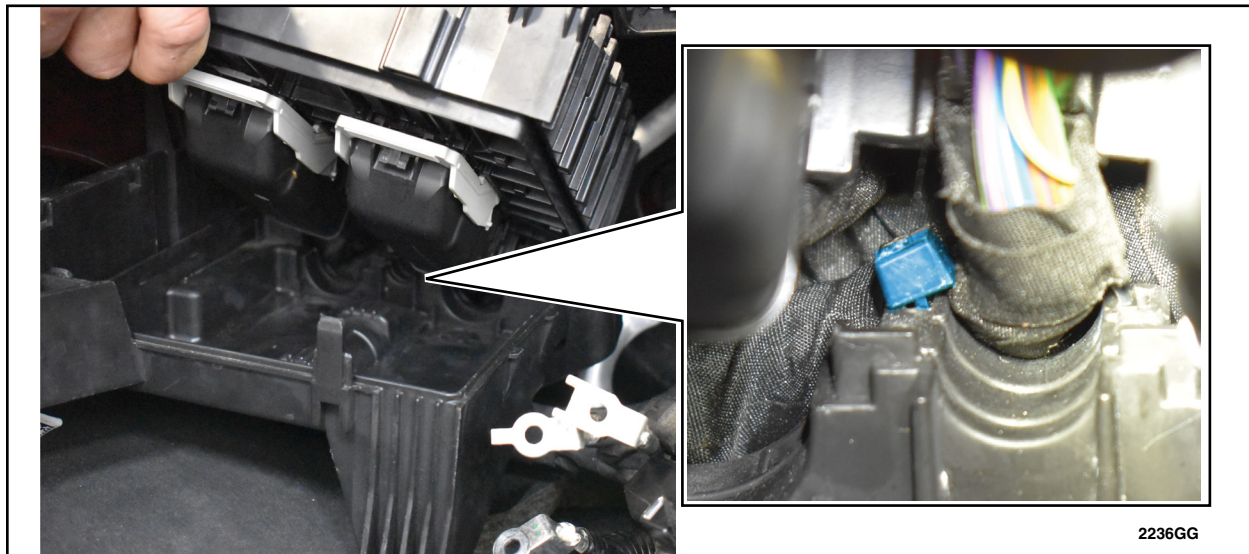

FIGURE 12
12. Position BJB, remove the zip tie connecting the middle wire harness to the lower portion of the BJB. See Figure 12.